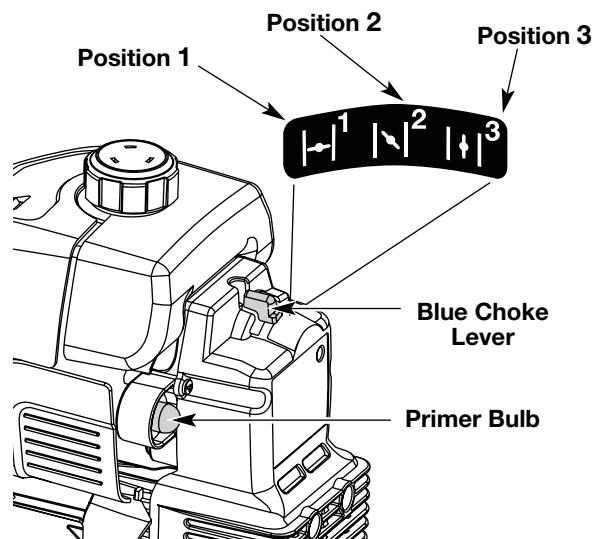

Fig. 10
3. Fully press and release the primer bulb 10 times, slowly. Some amount of **fuel should be visible in the primer bulb** and fuel lines (Fig. 10). If you can't see fuel in the bulb, press and release the bulb as many times as it takes before you can see fuel in it.
4. Place the blue choke lever in **Position 1** (Fig. 10).
10. Once the engine is warmed up, place the blue choke lever in **Position 3** (Fig. 10). The unit is ready for use.
- IF...** The engine hesitates, return choke lever to **Position 2** (Fig. 10) and continue warm up.